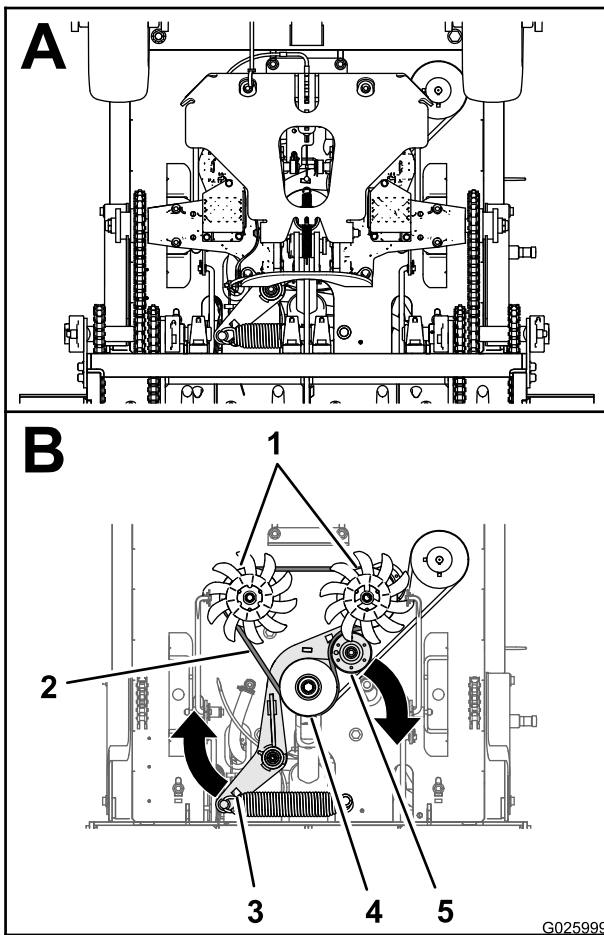

Figure 61
2. Insert a breaker bar into the socket of the belt-tension bracket and move the bracket outward and forward (Figure 61).
3. Slip the transmission-drive belt of the engine, tensioner, and transmission pulleys (Figure 61).
4. Route the new transmission-drive belt around the engine, tensioner, and transmission pulleys as shown in Figure 61
5. Release the belt-tension bracket and allow the spring to tension the belt (Figure 61).